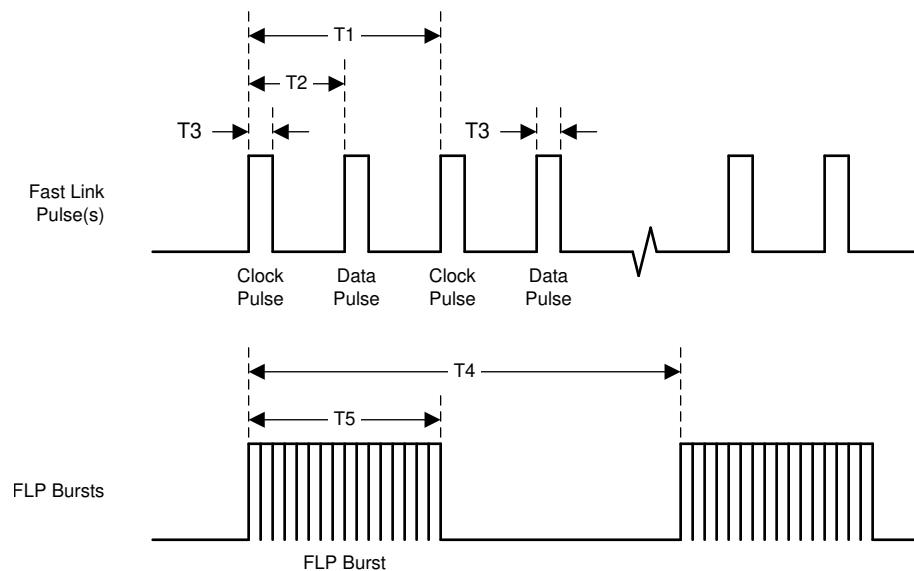

Figure 7-14. Fast Link Pulse Timing
- (1) Ensured by production test, characterization or design.
(2) See Figure 7-14.